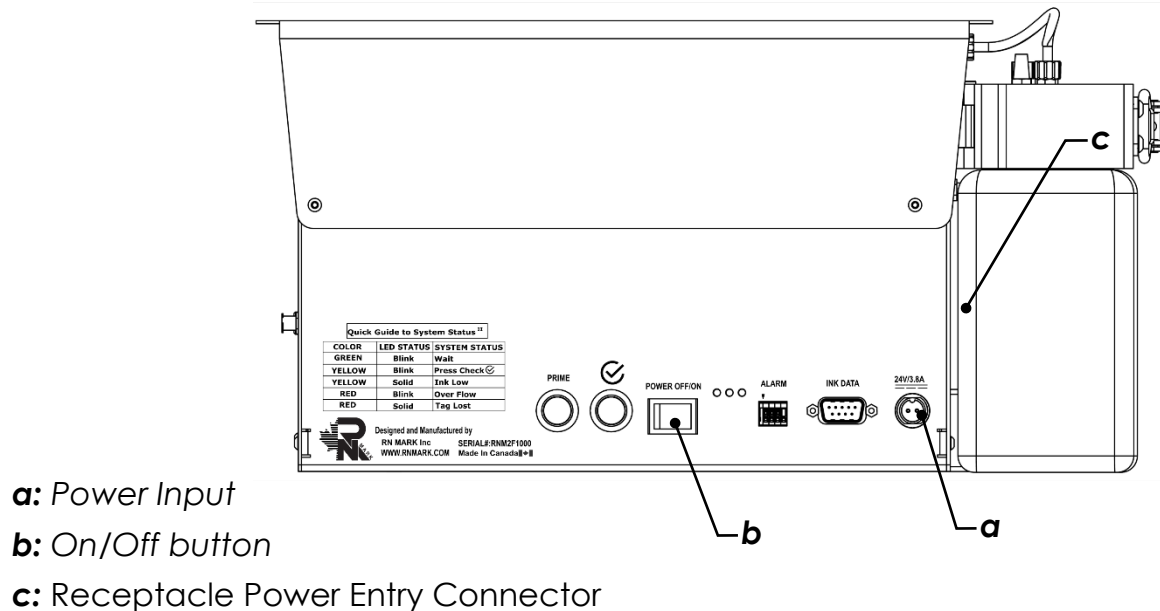

Figure 21
- Insert the male end of the power adapter cable supplied at the back of printer (refer to Figure 21).
- Toggle the two-position power switch to the “ON” position when printer operation is required (Refer to Figure 21).